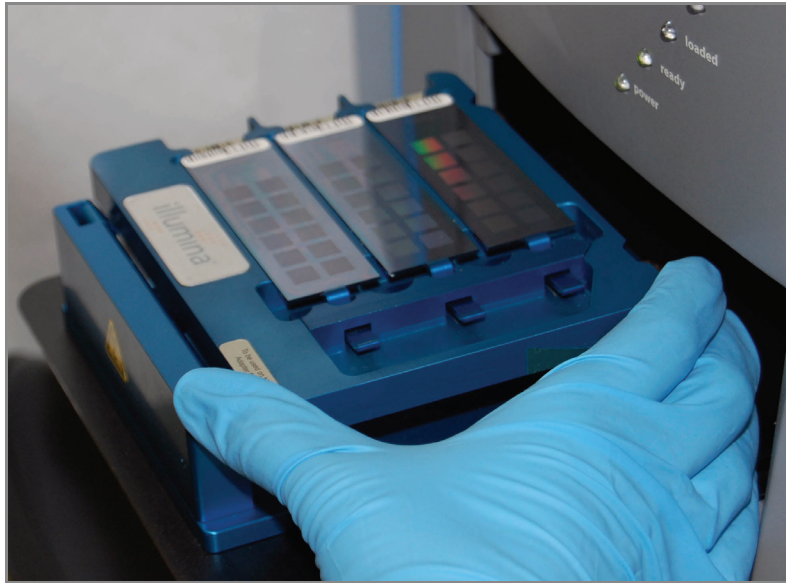

Figure 216 Place BeadChips into Illumina BeadArray Reader Tray
6. Make sure that the BeadChips are properly seated in the BeadArray Reader tray (Figure 216).